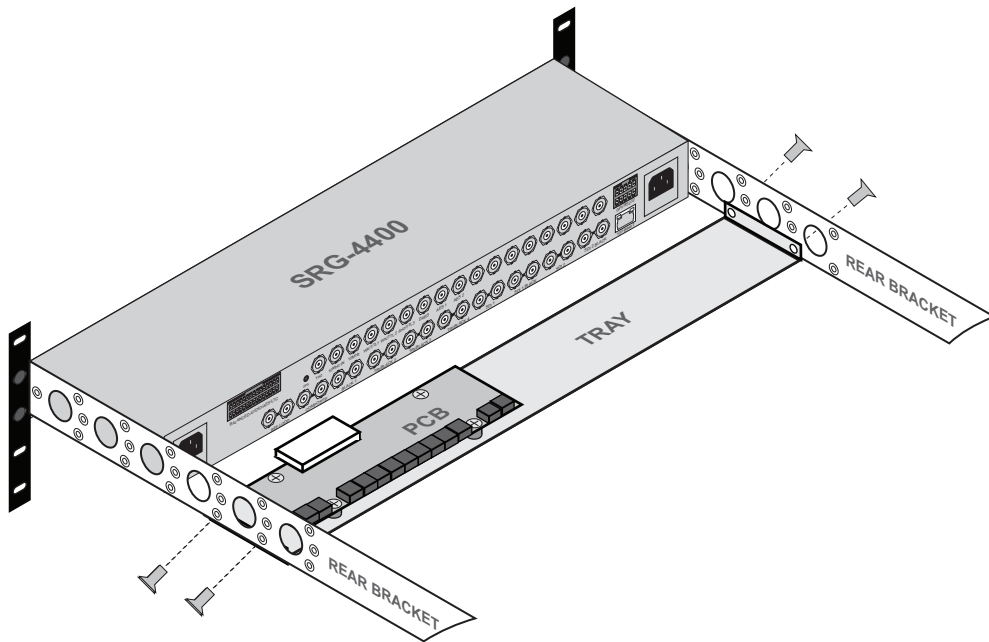

Figure 2.3 Installing the Breakout PCB and Tray to the Rear Brackets.
1. Position the Breakout PCB and Tray behind the SRG-4400 in the rack frame (**Figure 2.3**) while ensuring to:
2. Use the 4 provided M3 5mm screws to affix the Breakout PCB and Tray to the Rear Brackets of the SRG-4400. Refer to **Figure 2.3**.